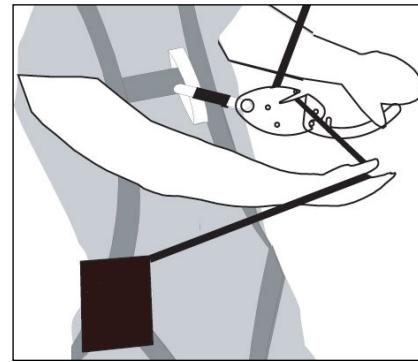

Figure 2 Attachment to harness
- 3) Attach the Smartline descender to a front attachment point of the harness (fig 2 – we recommend the lower attachment point on the harness if there is one) with the green karabiner. Ensure that both karabiners are locked.